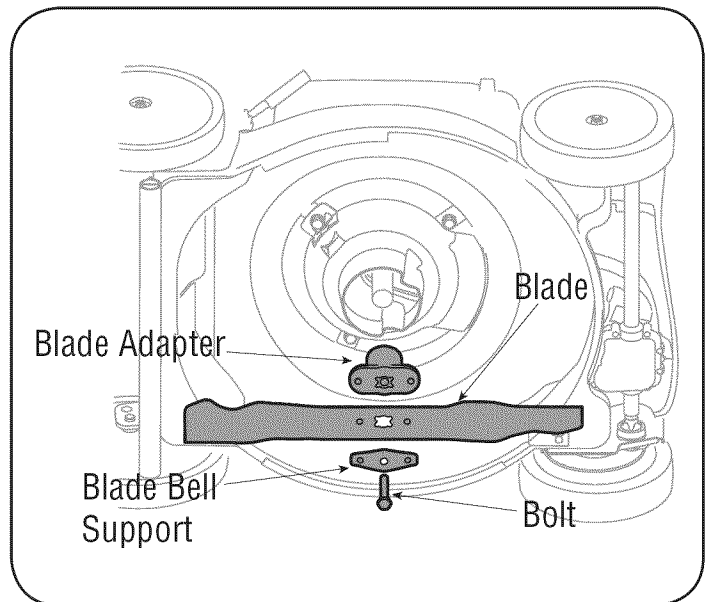

Figure 17
2. Remove the bolt and the blade bell support which hold the blade and the blade adapter to the engine crankshaft. See Figure 17.
3. Tip mower on its side with the air filter up to access belt from underside of mower and remove blade as described in the previous section. Refer to Figure 17.